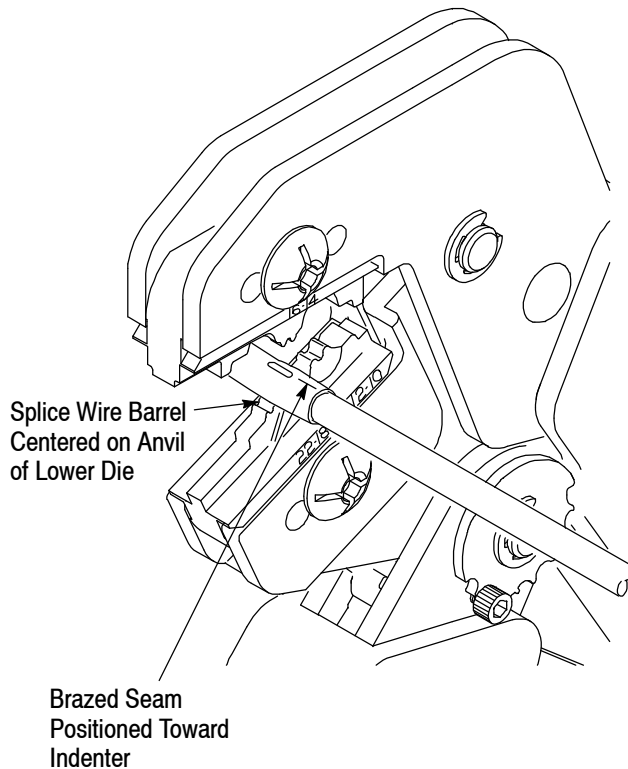

Figure 3
Refer to Figure 1 and select wire of the specified size and insulation diameter. Strip the wire to the length indicated, taking care not to nick or cut wire strands. Select an applicable splice and identify the appropriate crimping chamber according to the wire size markings on the dies. Refer to Figure 3 and proceed as follows:
2. Center the splice wire barrel on the anvil of the upper die as shown in Figure 3. If visible, be sure to place the brazed seam on the splice toward the indenter.
4. Insert stripped wire into the wire barrel, making sure that the insulation does not enter the wire barrel. See Figure 3.